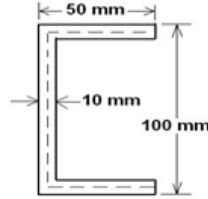

Figure 2
- Q.3 (a) Find out shear centre of thin walled section as shown in Fig. 2. Assume constant thickness throughout the section. (07)